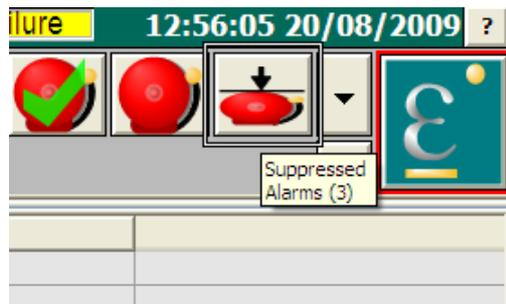

Figure 5.6 Alarm Suppression Icon
2. By hovering the mouse pointer over the Icon, a ‘tip’ box opens, indicating the number of alarms currently in suppression for all ‘Servers’ connected on a common ELIN network. The example in figure 5.6 shows that there are currently ‘3 Suppressed Alarms’ across the Server network.